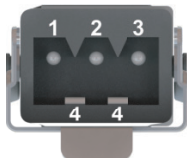
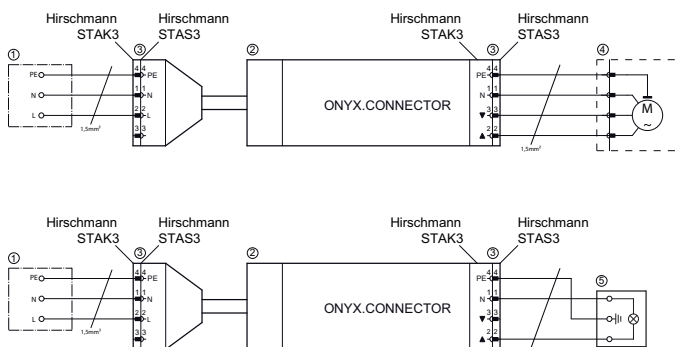
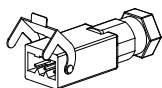
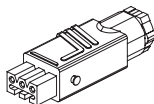

Fig. 1: Connections:
Fig. 2: Wiring diagram for Venetian blind, roller shutter and awning motor, lighting
Fig. 3: STAS 3 connector with bracket
Fig. 4: STAK 3 linkage
2. Connection to the power supply as per Fig. 2.
The ONYX.CONNECTOR is connected to the mains via the mounted Hirschmann connector STAS 3. If the connection cable made available by the client is not provided with a Hirschmann cable socket STAK 3 (Fig. 4), it must be mounted later. Please observe the terminal assignment as shown in Fig. 1 and Fig. 2.
The motor / lighting is directly plugged to the ONYX.CONNECTOR via the Hirschmann connector-in connection. If the motor / lighting is not provided with a STAS 3 connector (Fig. 3), it is necessary to provide the connection cable subsequently with it. Please observe the terminal assignment as shown in Fig. 1 and Fig. 2.